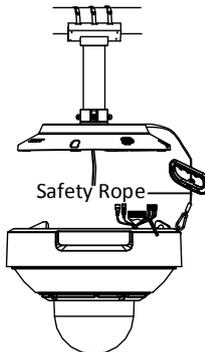

Figure 1-21 Install the Safety Rope
6. After fixing the head cover, hook the two ends of the safety rope to the bracket and the camera respectively, as shown in Figure 1-21.